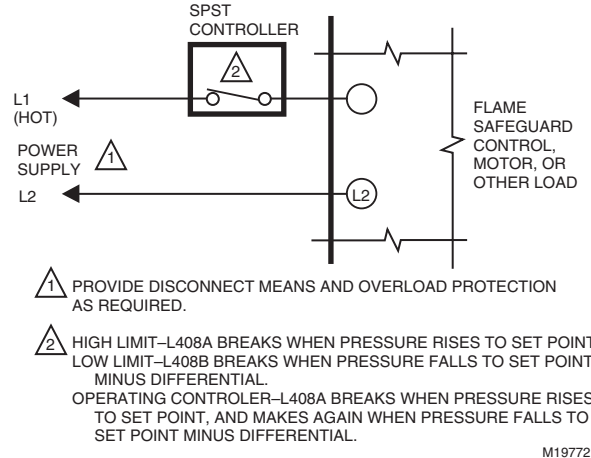

Fig. 4. L408 used as a limit or as an operating controller.
6. Refer to Fig. 4 through 7 for typical hookups. Follow the burner or boiler manufacturer wiring diagram, if provided.